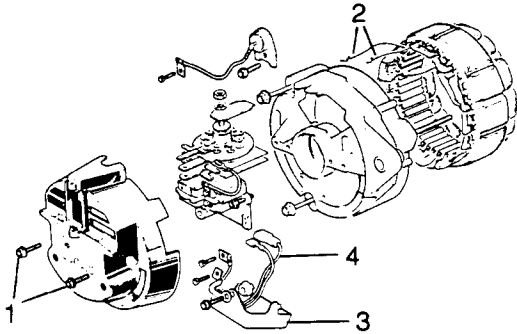

Fig O5.3
- (3) Refer to Fig O5.3. Remove alternator end cover by withdrawing two retaining screws (1).
- (4) Unsolder stator winding connections (2) at rectifier diodes.
- (1) Refer to Fig O5.3. Replace the brush gear and regulator (3) and secure with the three screws.
- (2) Reconnect the cables (4) to the rectifier plate.
- (3) Solder the stator winding connections (2) to the rectifier diodes.
- (4) Replace the end cover (1) and secure with the two retaining screws.